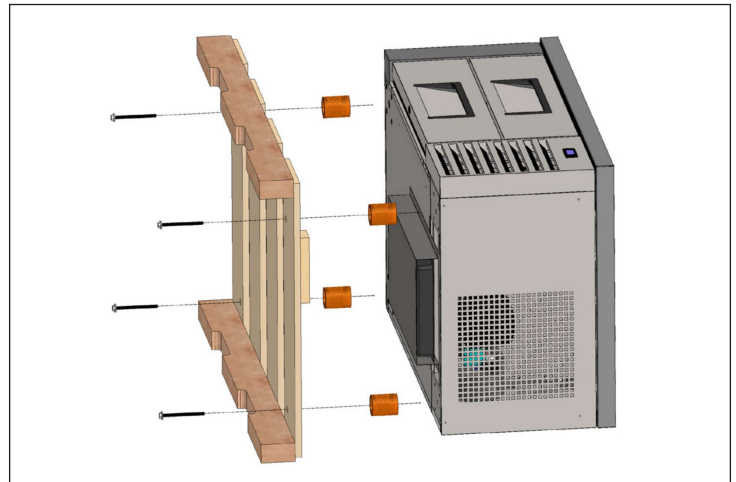

Fig. 2. Remove the shipping bolts.
- c. With an adjustable wrench, remove all shipping bolts securing the wood skid to the bottom of the appliance. See fig. 2.